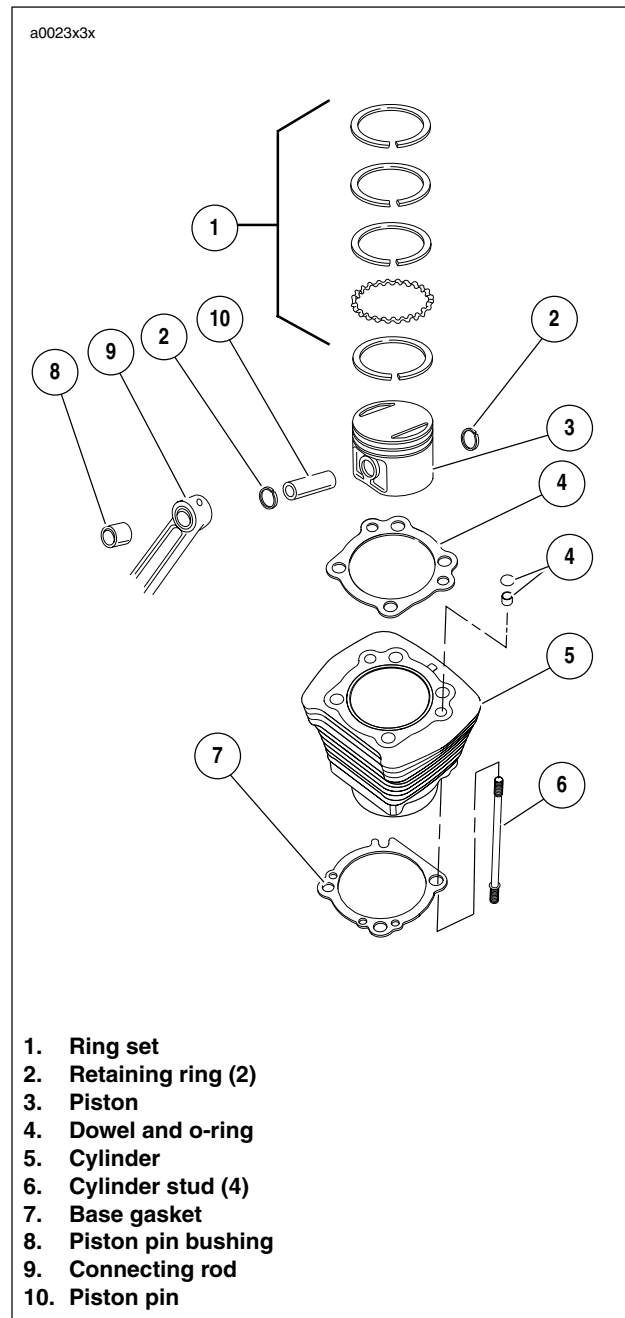

Figure 3-70. Cylinder and Piston
4. See Figure 3-70. Turn engine over until piston of cylinder being removed is at bottom of its stroke.